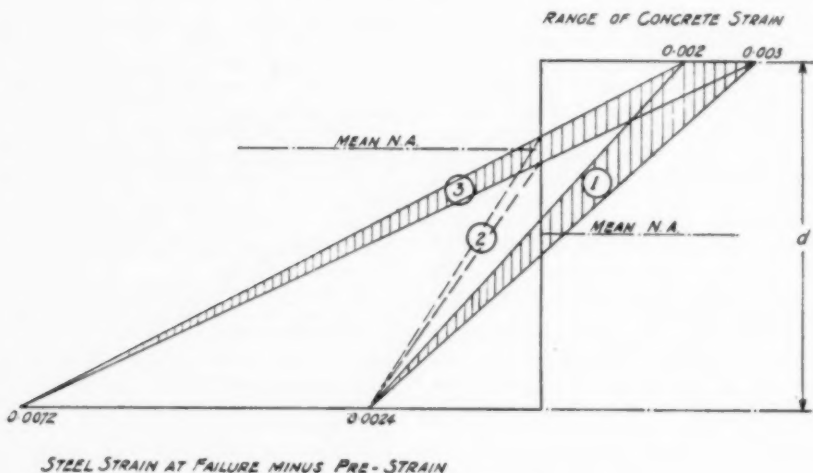

Fig. 1.—Distribution of Strain.
Many engineers would, however, probably like to know what was the value of the prestressing in each beam at the time of the tests, whether or not the cables were bonded, and the precise definition of failure in the "under-reinforced" beams. Is not the linear relationship shown to exist between  $K$  and  $\lambda$  due to failure being initiated by non-recoverable strain causing a rise of the neutral axis? Also, do not the higher values of  $K$ , say, 0.25 to 0.33, depend not only on the area of steel but also on the prestress and on the efficiency of the bond? Fig. 1 shows three possible distributions of strain for the same area of steel: (1) A bonded beam in which the strain in the steel due to the load at failure minus the strain due to pre-tensioning is 0.0024; (2) An end-anchored beam in which this difference in strain is
0.0024; and (3) A bonded beam in which this difference in strain is 0.0072.